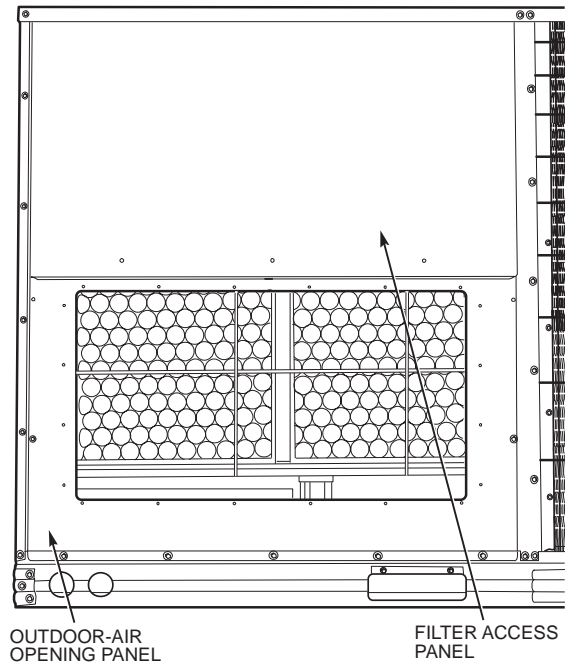

Fig. 26 — Typical Access Panel Locations
1. To remove the existing unit filter access panel, raise the panel and swing the bottom outward. The panel is now disengaged from the track and can be removed. Remove the indoor coil access panel and discard. See Fig. 26.
3. Replace the filter access panel. See Fig. 26. Ensure the filter access panel slides along the tracks and is securely engaged.